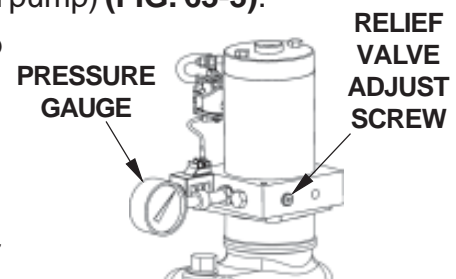

FIG. 63-2
9. With Platform on the ground, remove the pressure hose and fitting from Pump and replace it with a 0-3000 PSI Pressure Gauge. Hold the Control Switch in the "RAISE" position. Adjust the Relief Valve on the side of the Pump until the gauge shows 2800 to 3000 PSI (**FIG. 63-2**). Remove gauge and reinstall pressure hose.